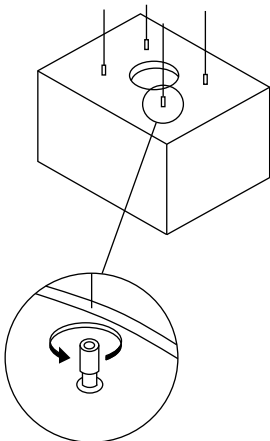

Fig 10
7. Unscrew holder from the Turandot (Fig 10).